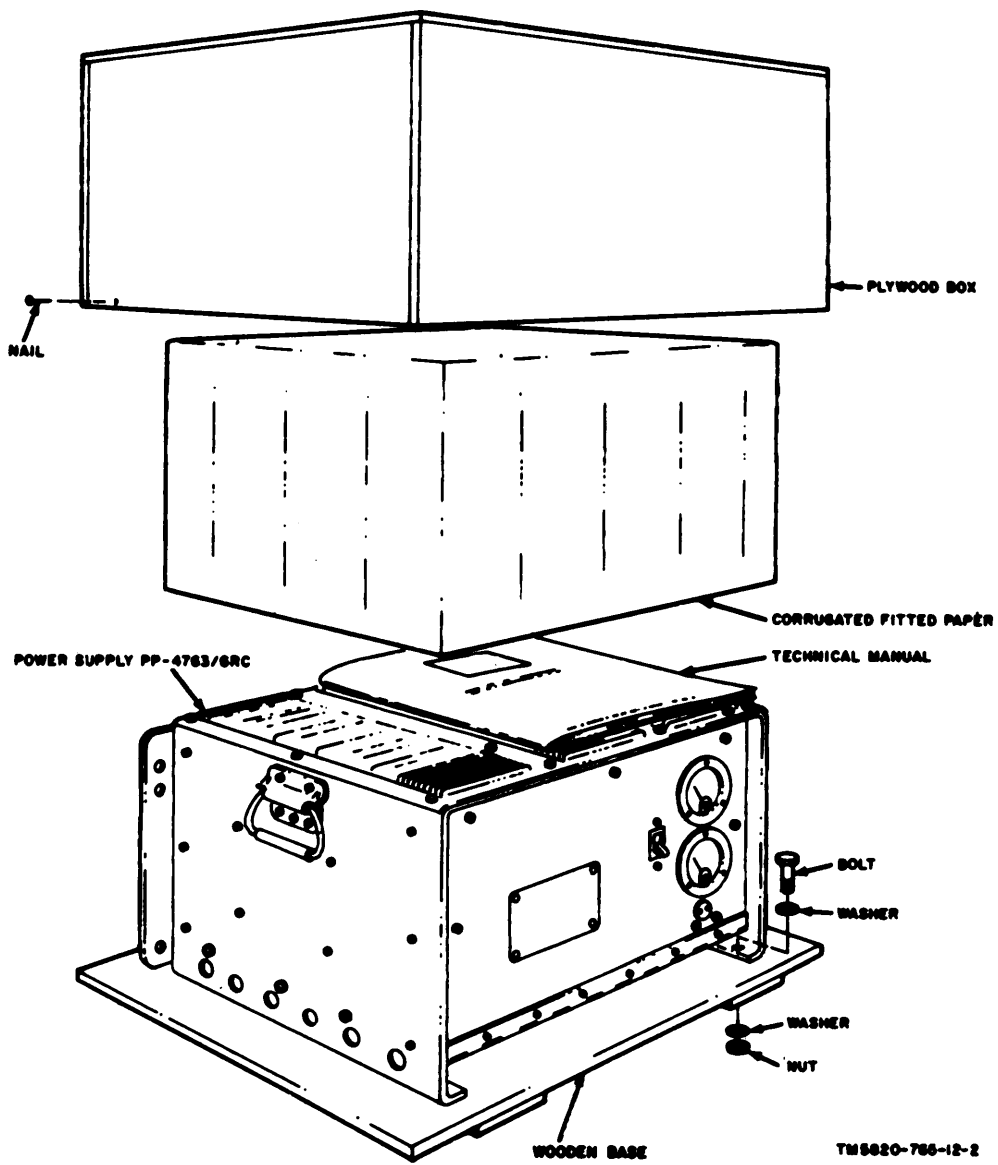

Figure 2-1. Typical packaging.
*a. Packaging Data.* When packed for shipment, Power Supply PP-4763/GRC is packed in a 24¾ by 21¾ -by 17¼ -inch wooden box. The volume is 5.4 cubic feet, and the total shipping weight is 193 pounds. The PP-4763A/GRC is packed in a 24¾ -by 22¼ -by 17¼ -inch box. The volume is 5.5 cubic feet, and the total shipping weight is 200 pounds. A typical wooden box and its contents are shown in figure 2-1.
- (1) Remove the nails that secure the plywood box to the wooden base. Lift the box free of the unit and the base.
- (2) Remove the bolts that fasten the power supply to the base.
- (3) Lift the power supply clear of the base.
- (4) Remove the fitted corrugated wrapping paper from the power supply.